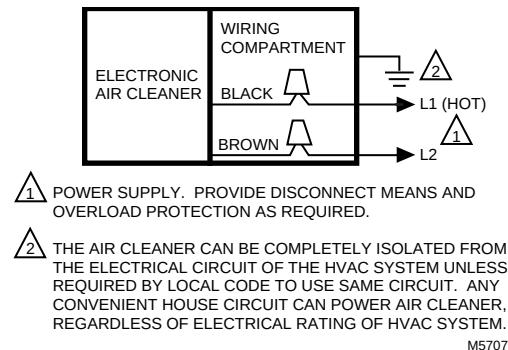

Fig. 11. Conduit connection for electronic air cleaner.
8. Wire the air cleaner directly to line voltage using wire nuts. See Fig. 11. Secure ground connection to the green ground screw on the wiring compartment barrier.